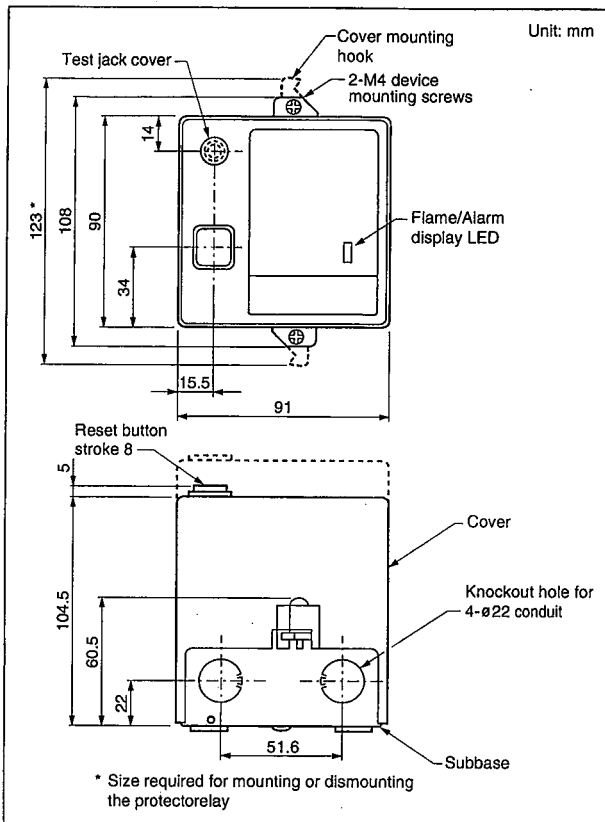
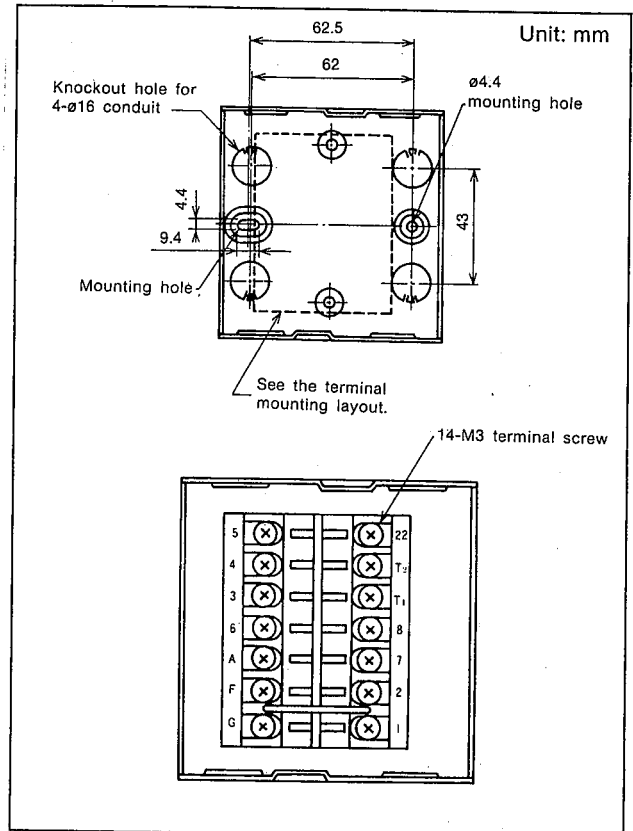
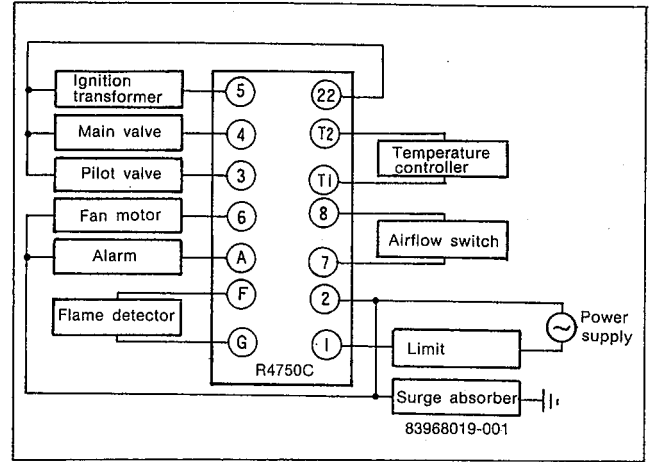

Fig. 1
Fig. 2
Fig. 3
This protectorelay is mounted so that the cover mounting screws are vertically aligned with each other usually as shown in Fig. 1. However, it can be mounted in an optional direction so long as the reset button of the safety switch does not face downward.
- (1) Loosen two upper and lower cover mounting screws shown in Fig. 1, and bring the cover mounting hooks to the outside of the protectorelay as shown by a dotted line.
- (2) Hold the subbase and cover by hands, and separate them left and right. Be careful not to apply any excessive force, otherwise they may be broken.
- (3) For mounting them, reverse the above procedure.
- (1) Prepare knockout holes shown in Fig. 1 and Fig. 2 as required, and mount a wiring conduit.
- (2) Fix the subbase at the specified position by using screws.
- (1) Fig. 2 shows the terminal mounting layout of the subbase. Fig. 3 shows a connection example to an external unit.